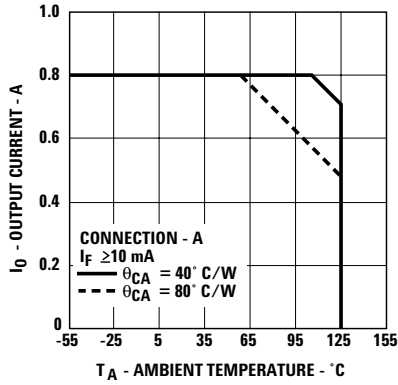
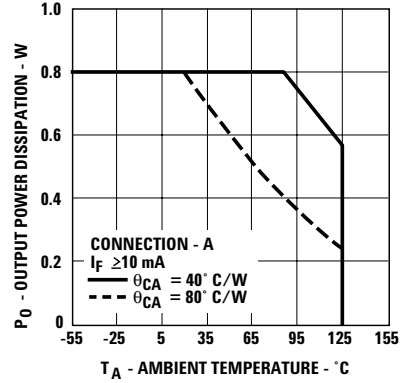

Figure 2. Maximum Average Output Current Rating vs. Ambient Temperature.
Figure 4. Output Power Rating vs. Ambient Temperature.
- For rating, see Figure 4. The output power P_O rating curve is obtained when the part is handling the maximum average output current I_0 as shown in Figure 2.
IN ORDER TO DETERMINE V_{OUT} CORRECTLY, THE CASE TO AMBIENT THERMAL IMPEDANCE MUST BE MEASURED FOR THE BURN-IN BOARDS TO BE USED. THEN, KNOWING θ_{CA} , DETERMINE THE CORRECT OUTPUT CURRENT PER FIGURES 2 AND 4 TO INSURE THAT THE DEVICE MEETS THE DERATING REQUIREMENTS AS SHOWN.
The output on-resistance, R_{ON} , specified in this data sheet, is the resistance measured across the output contact when a pulsed current signal ($I_O = 800 \text{ mA}$) is applied to the output pins. The use of a pulsed signal ($\leq 30 \text{ ms}$) implies that each junction temperature is equal to the ambient and case temperatures. The steady-state resistance, R_{SS} , on the other hand, is the value of the resistance measured across the output contact when a DC current signal is applied to the output pins for a duration sufficient to reach thermal equilibrium. R_{SS} includes the effects of the temperature rise of each element in the thermal model. Rating curves are shown in Figures 2 and 4. Figure 2 specifies the maximum average output current allowable for a given ambient temperature. Figure 4 specifies the output power dissipation allowable for a given ambient temperature. Above 55°C (for $\theta_{CA} = 80^{\circ}\text{C}/\text{W}$) and 107°C (for $\theta_{CA} = 40^{\circ}\text{C}/\text{W}$), the maximum allowable output current and power dissipation are related by the expression $R_{SS} = P_O(\text{max}) / (I_O(\text{max}))^2$ from which R_{SS} can be calculated. Staying within the safe area assures that the steady-state junction temperatures remain less than 150°C . As an example, for $T_A = 95^{\circ}\text{C}$ and $\theta_{CA} = 80^{\circ}\text{C}/\text{W}$, Figure 2 shows that the output current should be limited to less than 610 mA . A check with Figure 4 shows that the output power dissipation at $T_A = 95^{\circ}\text{C}$ and $I_O = 610 \text{ mA}$, will be limited to less than 0.35 W . This yields an R_{SS} of 0.94Ω .